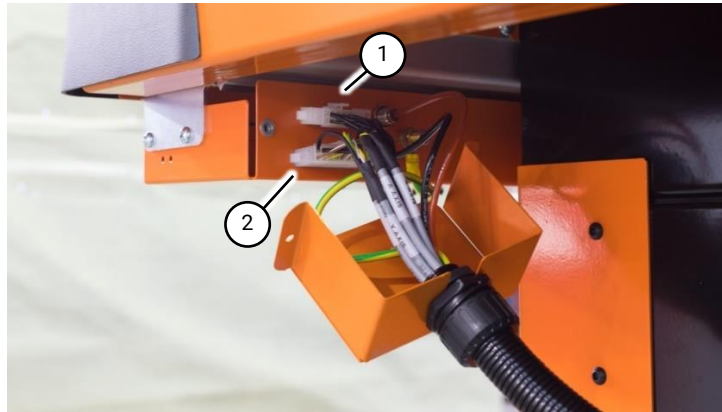

Fig 18 Motor and sensor connections
1.3 Connect the smaller connector to the top connection (Fig 18 (1)) and larger connector to the bottom connection (Fig 18 (1)).